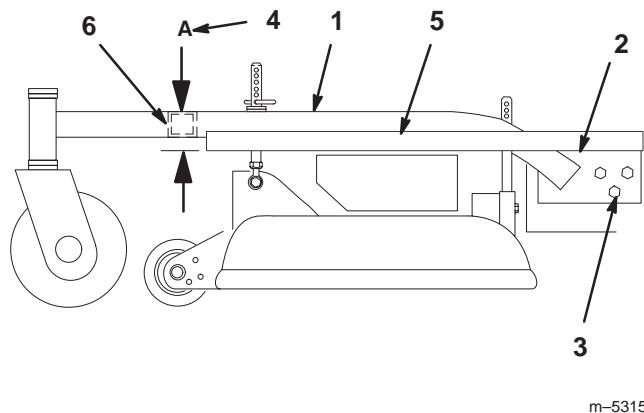

Figure 58
2. Place a long straight edge on top of the engine deck as shown in figure 58.
3. At the carrier frame cross tube, measure location “A” height (Fig. 58). This measurement must be 2–13/16 in. (71.4 mm), plus or minus a 1/4 in. (6 mm).
5. Loosen the carrier frame mounting bolts on both sides of the machine (Fig. 58).
6. Align the carrier frame and engine deck to match 2–13/16 in. (71.4 mm), plus or minus a 1/4 in. (6 mm) at location “A” (Fig. 58).